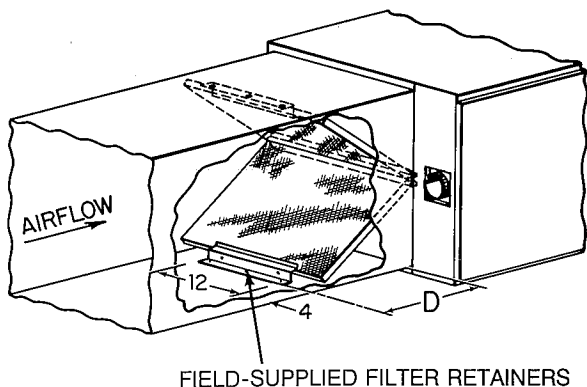
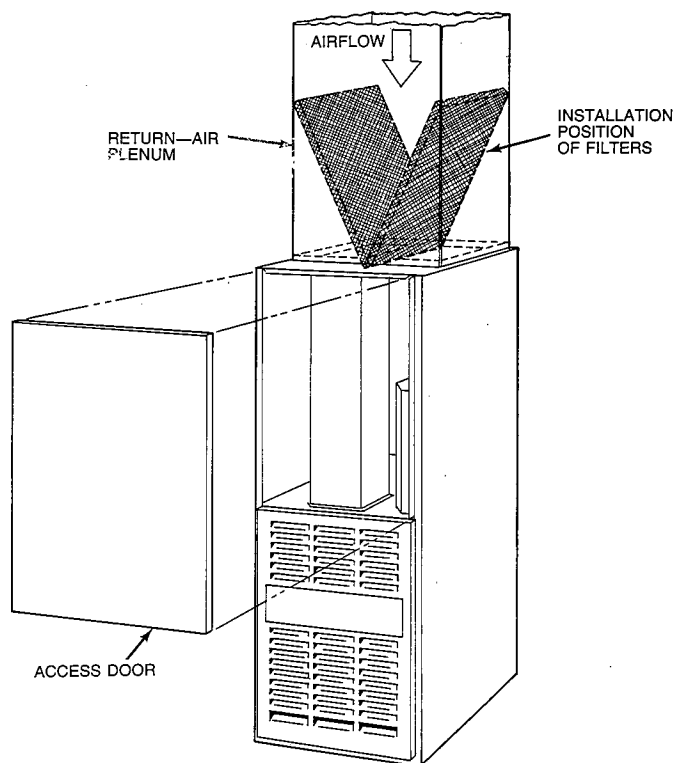

Fig. 8—Horizontal Filter Arrangement A82173
Fig. 9—Position of Filters A88486
- a. Install field-supplied filter retainers as indicated in Fig. 8 and Table 4 before connecting return-air duct to furnace.
The two factory-supplied filters are shipped in the blower compartment. After the return-air duct has been connected to the furnace, install the filters in a V-formation inside the return-air plenum. See Fig. 8 and Table 4 for horizontal applications. Horizontal filter retainers must be field-supplied. See Fig. 9 for downflow applications.